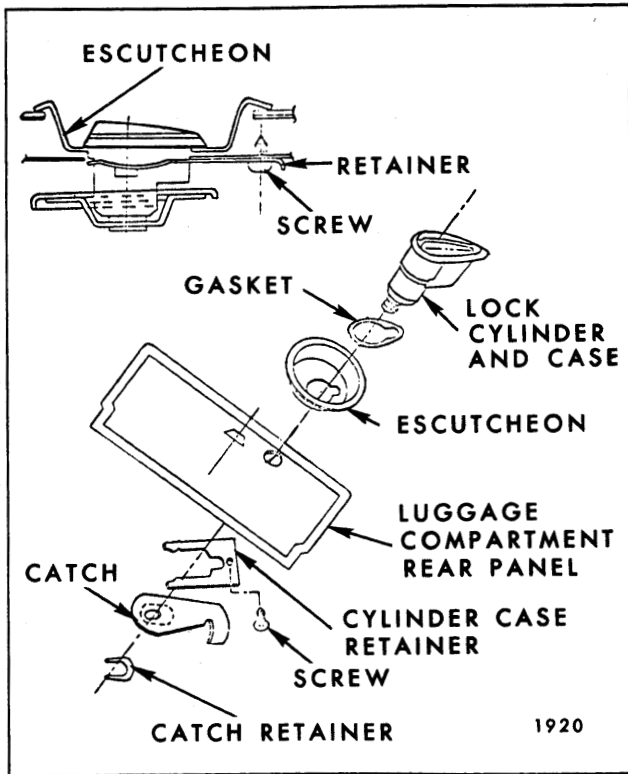

Fig. 10-61—Luggage Compartment Lock Chevrolet "B" Styles
2. On underside of luggage compartment rear panel remove catch retainer and catch from lock cylinder case (Fig. 10-61); then turn lock cylinder with key until cylinder can be removed from case.
2. On underside of luggage compartment rear panel, remove catch retainer and catch (Fig. 10-61).
retainer (Fig. 10-61); then, remove lock cylinder and case, gasket and escutcheon from panel (Fig. 10-61).